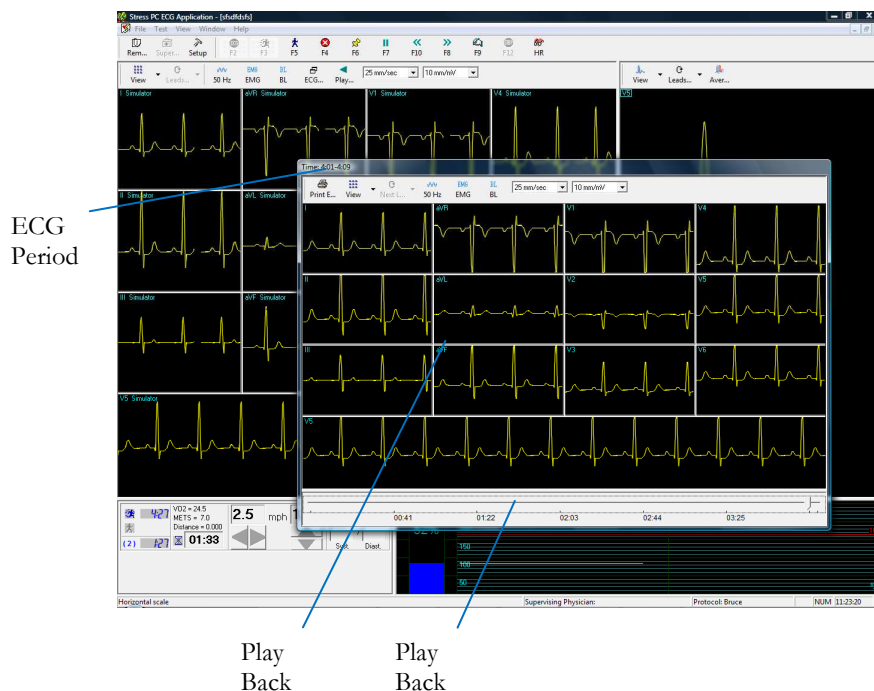

Figure 27: Play Back Window
1. Press on  or on space-bar key or select Test->Play Back menu to open the Play Back window (See Figure 27, 71 )